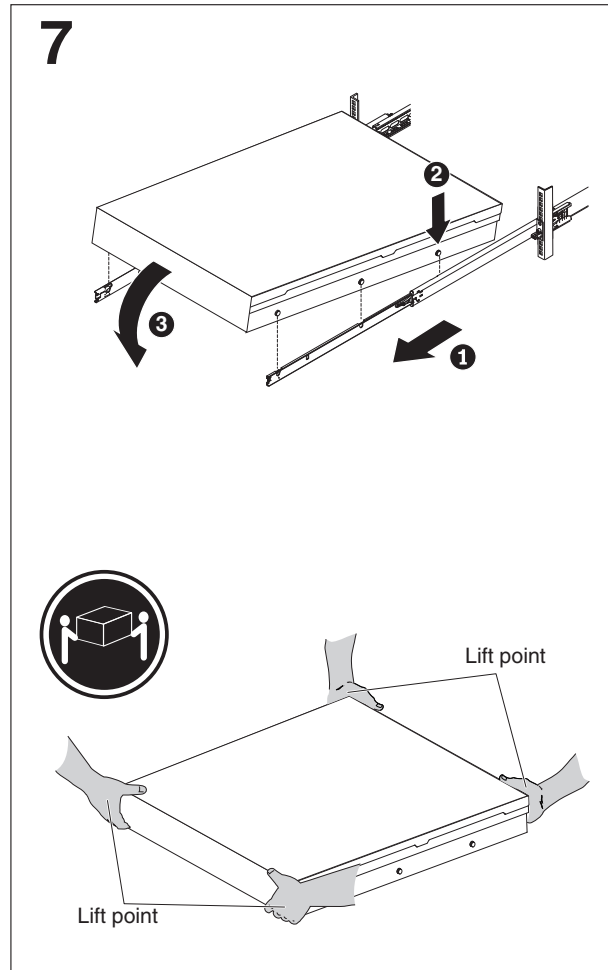

Figure 35. Installing the SAN Volume Controller 2145-DH8 node in the slide rails of the rack
- a. Pull the slide rails **1** forward until they click twice into place (as shown in Figure 35 on page 55).